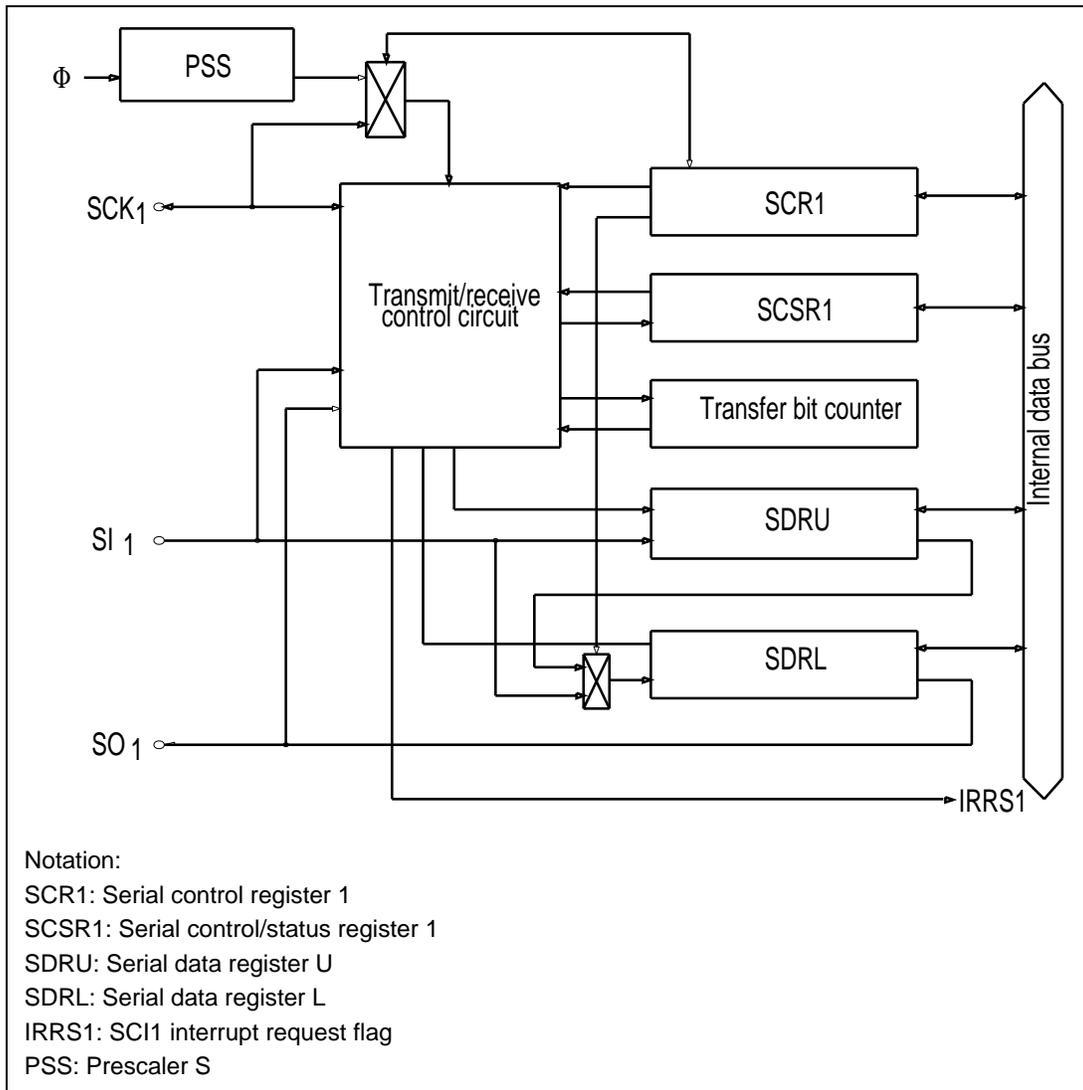

Figure 10-2-1 SCI1 Block Diagram
- Figure 10-2-1 shows a block diagram of SCI1.